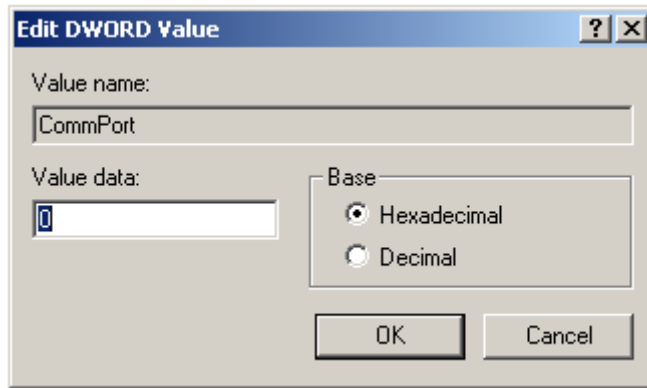

Figure 4, Edit DWord Value
- Verify OBDII Key by clicking on “OBDII” and double clicking on “CommPort”. You should see the following dialog as shown in Figure 4.